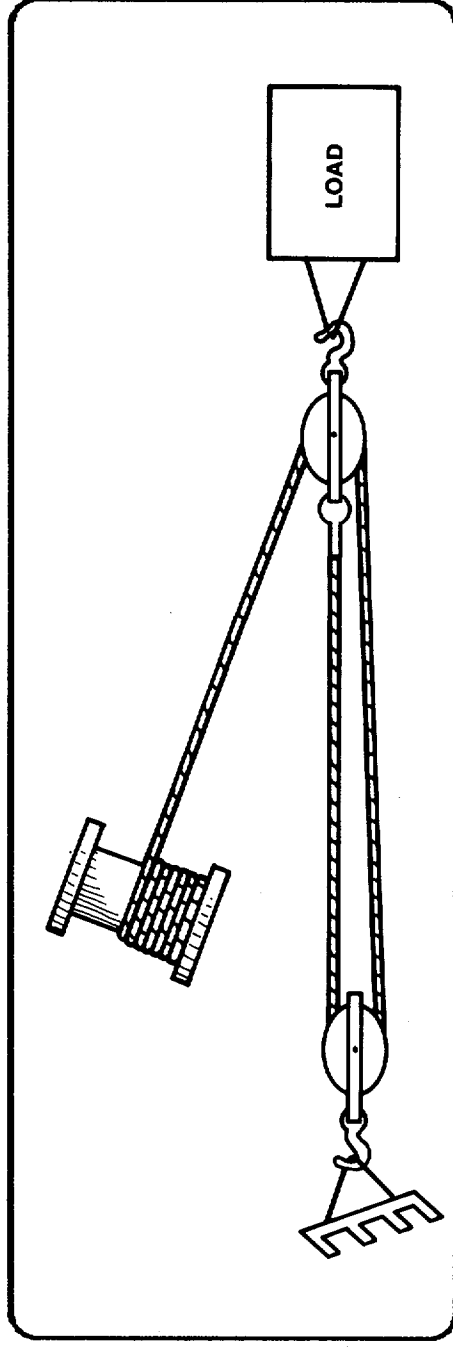

Figure 2-14. Tackle Resistance
**Example:** In Figure 2-14, say the load is 40 tons, and two sheaves are used.